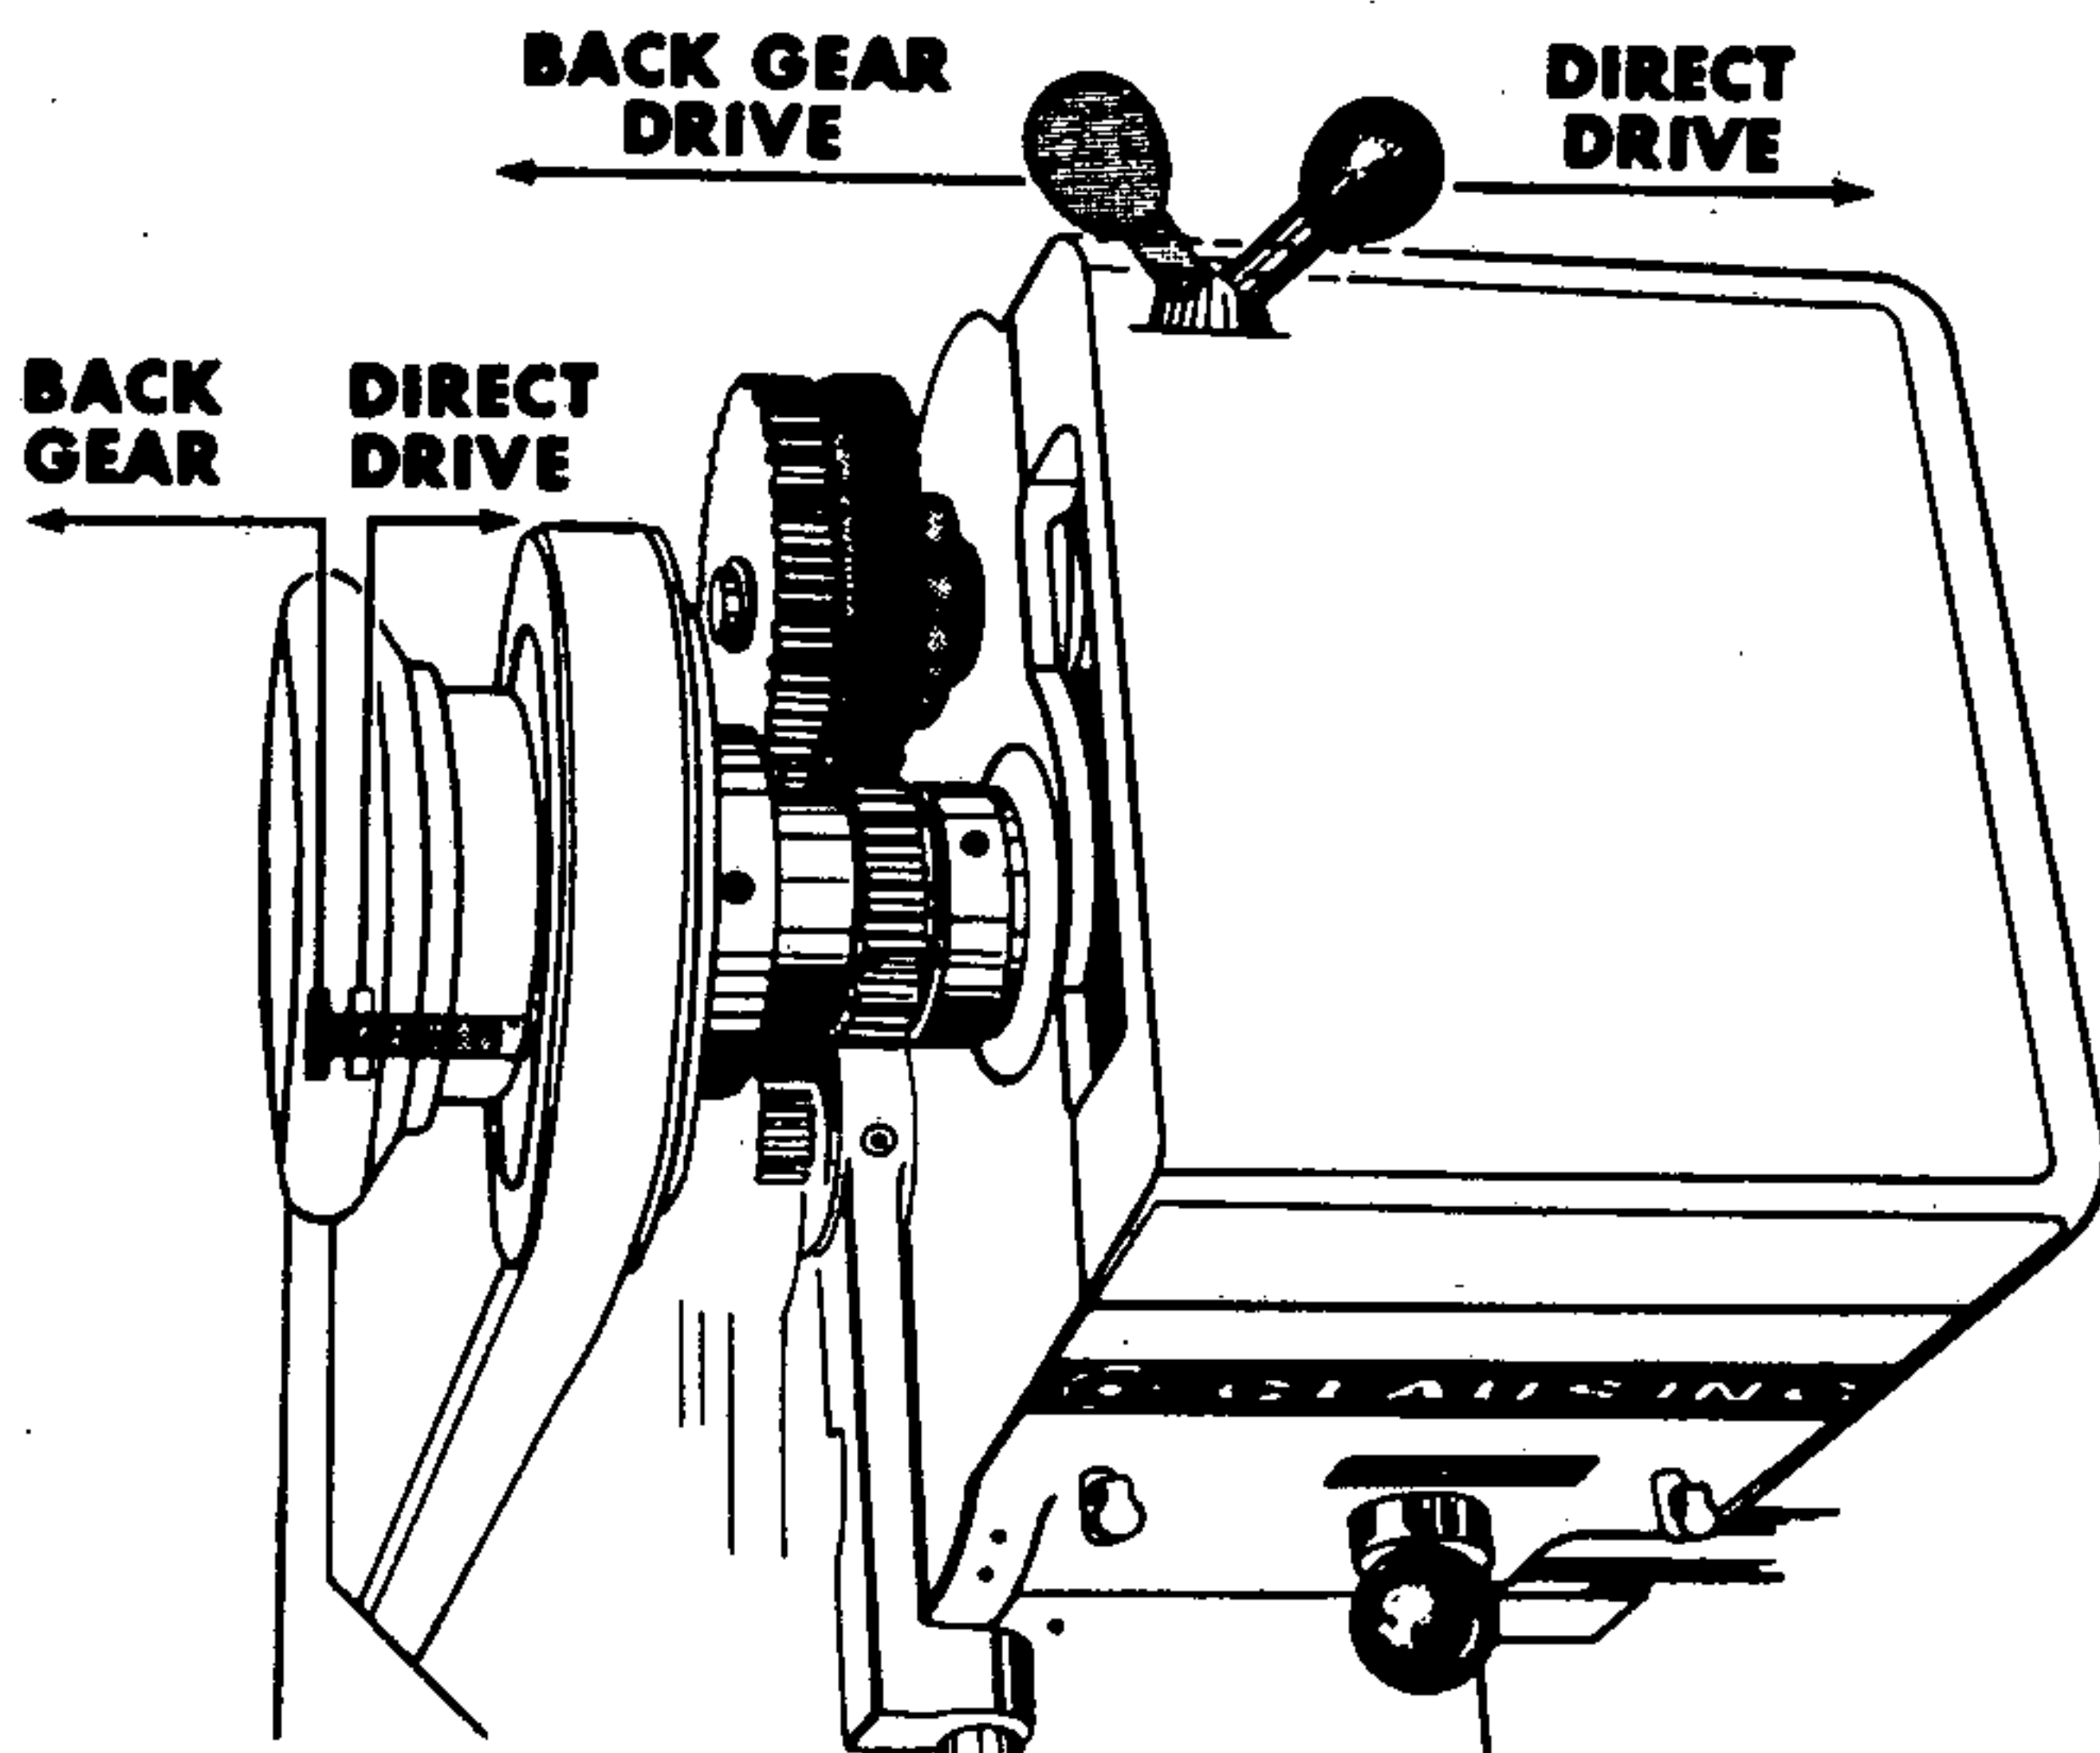

Figure 5
2. Disengage back gear pin (figure 5) from drive pulley by pulling pin away from headstock.